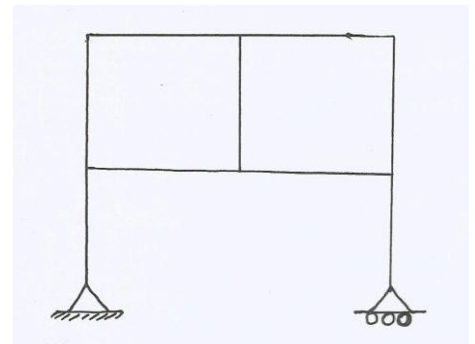

Figure-2
- (c) Define the terms: Static Indeterminacy and Kinematic Indeterminacy. Find the S.I and K.I of a plane frame as shown in Figure-2. **07**